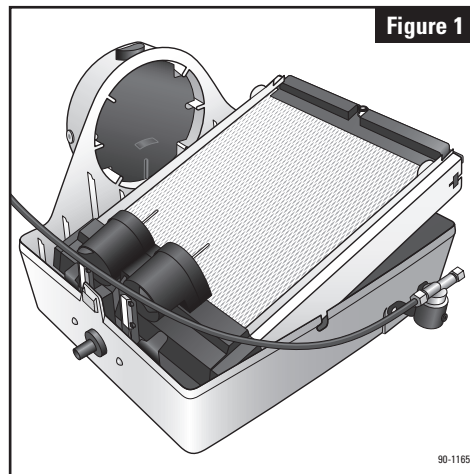
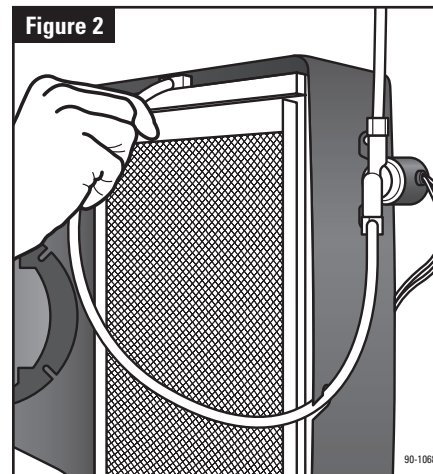

Figure 1
Figure 2
**1.** Press top and bottom tabs to remove cover (1). Pull feed tube (3) out of distribution tray (4). Remove Water Panel® Evaporator assembly. See **Figure 1**.
**2.** Humidifier is supplied with bypass duct connection on left. For right side bypass, swap location of water level sensor assembly (9) and cap (10).
**4.** Place humidifier base (2) in opening and secure with 6 screws in openings provided.
**6.** Insert Water Panel Evaporator assembly into base. Make sure bottom of scale control insert (6) is seated in water level sensor assembly (9). Snap top of evaporator assembly into base. Insert feed tube into distribution tray. See **Figure 2**. Make sure float cover (14) is snapped into place and that floats (13) move freely up and down. Rotate nameplate (11) if necessary, so it is right side up. Place point bypass damper handle (8) to "WINTER" (open) for heating season and "SUMMER" for cooling season.